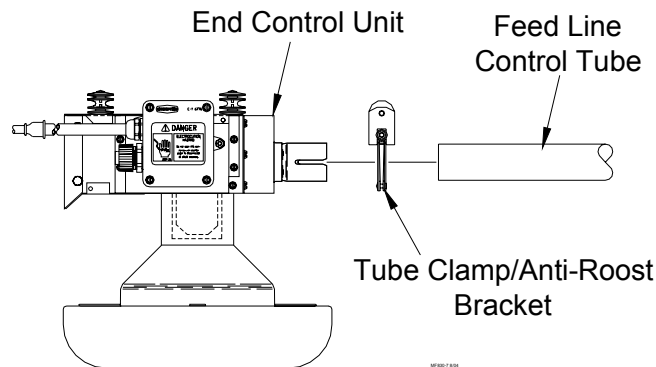

Figure 38. Connecting End Control Unit to the Feed Line
1. Assemble the End Control Unit to the Feeder Line Control Tube using a clamp/anti-roost bracket. See **Figure 38**. **DO NOT INSTALL THE POWER UNIT AT THIS TIME.**